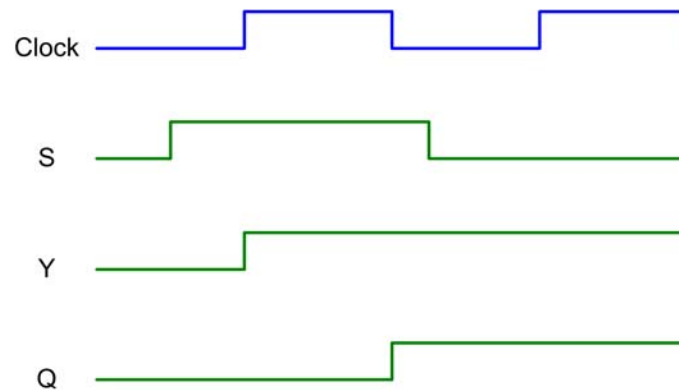

Figure 3: Timing wave form of SR Master-Slave Flip-Flop
- Now let's view the operation of the master-slave flip-flop by analyzing its timing wave forms (See Figure 3).